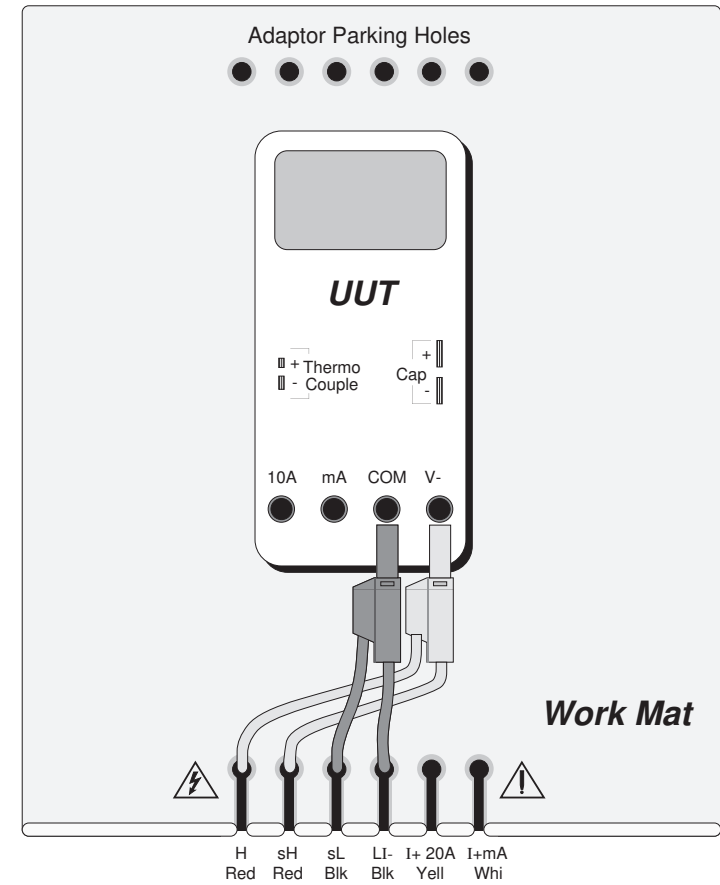

Fig. 4.17.1 Interconnections for UUT Logic-Levels Calibration
The general connection scheme for UUT calibration is illustrated in *Fig. 4.17.1*.
1. **Connections** Connect the 9100 to the UUT as shown in *Fig. 4.17.1*, and ensure that both instruments are powered ON and warmed up.